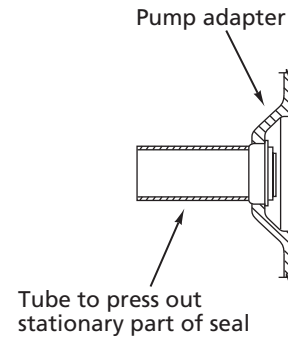

Figure 4
1. Drive the old seal out of the adapter. Use a piece of pipe or tubing as shown in Figure 4.